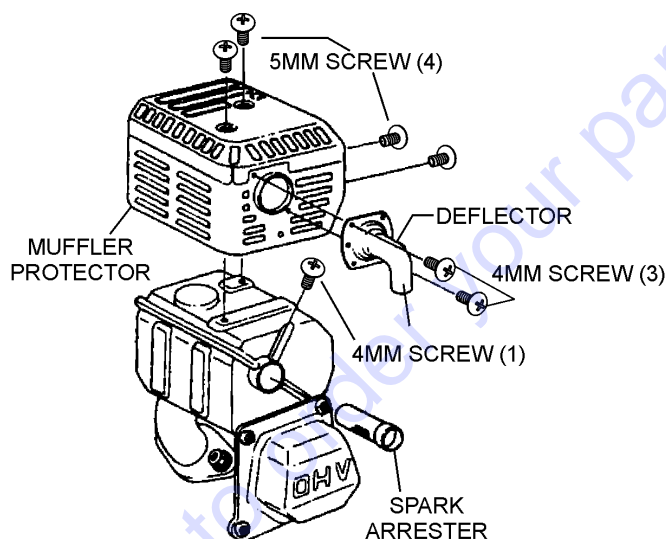

Figure 58. Spark Arrester Removal
1. Remove the 4 mm screw (3) from the exhaust deflector, then remove the deflector. See Figure 58.
2. Remove the 5 mm screw (4) from the muffler protector, then remove the muffler protector.